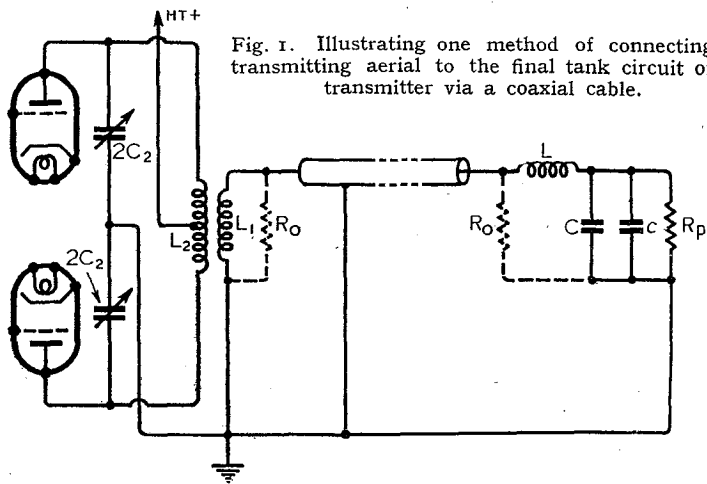

Fig. 1. Illustrating one method of connecting a transmitting aerial to the final tank circuit of a transmitter via a coaxial cable.
one has first to match the load of the output stage of the modulated RF amplifier to the characteristic impedance of the cable and then the resistance of the aerial has to be transformed into a suitable value for terminating the cable. Now the dimensions of the transmitting aerial are likely to be small compared with the wavelength radiated, which means that the aerial is capacitive and may thus be represented, as before, by a condenser c in parallel with a resistance R_p . It is possible by placing a reactance across this circuit to transform the apparent resistance of the aerial into another value. In Fig. 1 the added reactance takes the form of another condenser C , and we will choose its value so that the aerial resistance appears to be the value of the characteristic impedance of the cable. We have thus satisfied
At the transmitter end of the cable we have an example of pure resistive matching, for the output tuned circuit is clearly resonant at the frequency we are concerned with and so behaves as a pure resistance of value $L^2\omega^2/R_2$, where R_2 is the RF resistance of L_2 . A transformer circuit can thus be used as shown in Fig. 1, but it would almost certainly be wound in such a way that the symmetry of the output circuit is preserved. This is not indicated in the figure.
matching equation (1) that $R_i = R_0$. We now need to neutralise the effective reactance of the aerial system, which we can do by adding an inductance L as shown in Fig. 1. Some readers will recognise this is the circuit of the L-type network. In Fig. 1 R_0 is a fictitious resistance representing the characteristic impedance of the coaxial cable.